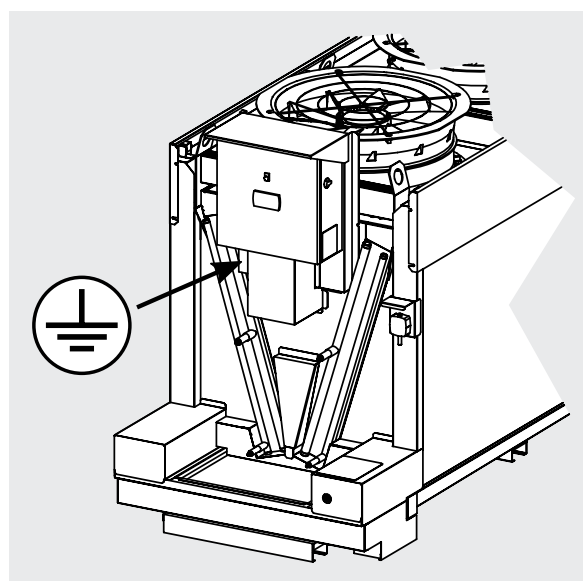

Figure 13
- 8.4 To minimise the risk of indirect contact, the electrical system can be earthed using the pin under the front cover. See Figure 13.